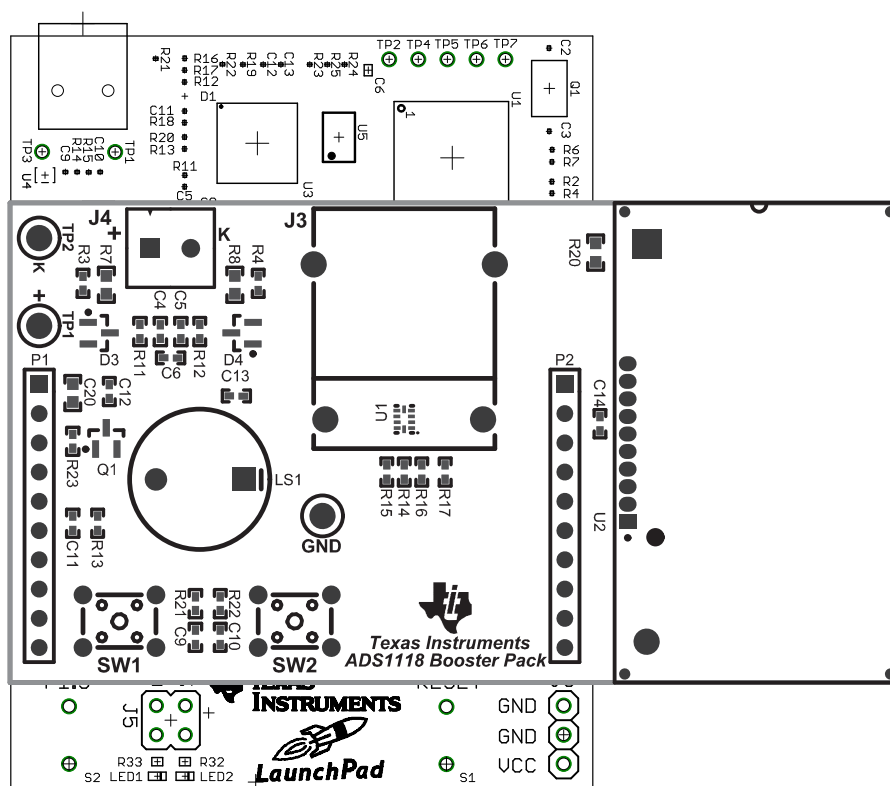

Figure 4. Booster Pack on Top of the LaunchPad
5. Insert the ADS1118 Booster Pack on top of the LaunchPad as shown in Figure 4.